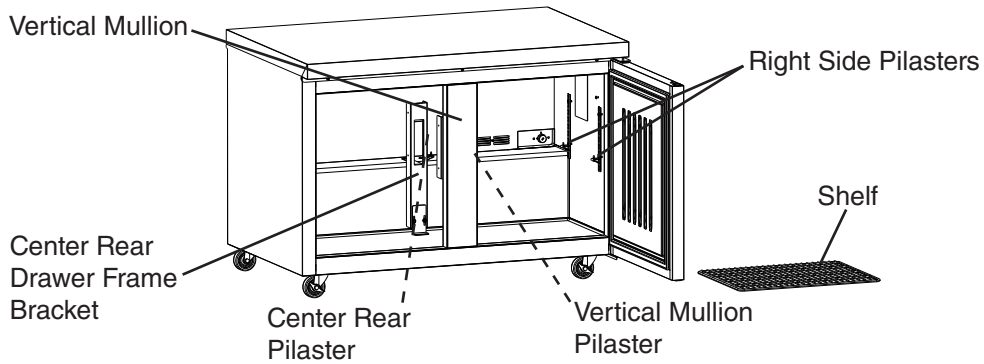

Fig. 23
5) Remove the shelf from the door section, then remove the pilasters. See Fig. 23.